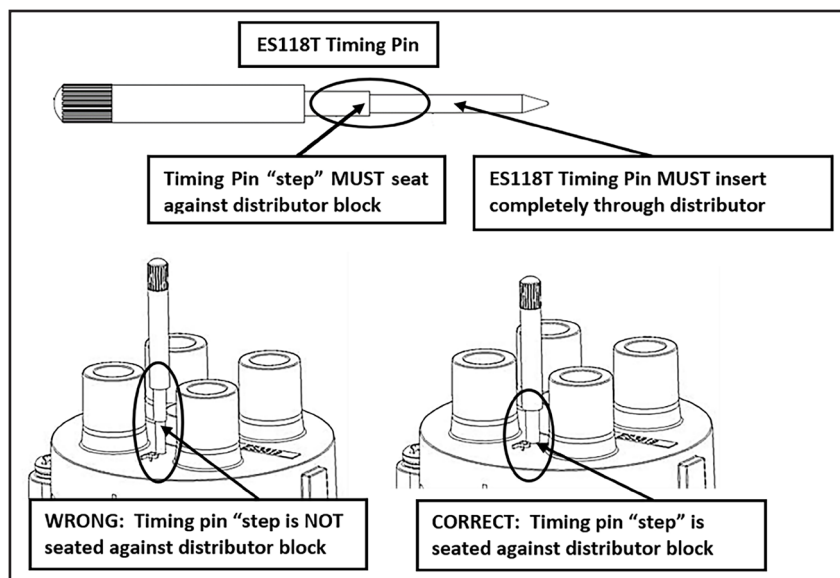

Figure 6.23 – ES118T Timing Pin
- F. The ES118T Timing Pin is fully and correctly inserted when the first step in the pin is seated against the face of the distributor block. Refer to Figure 6.23.